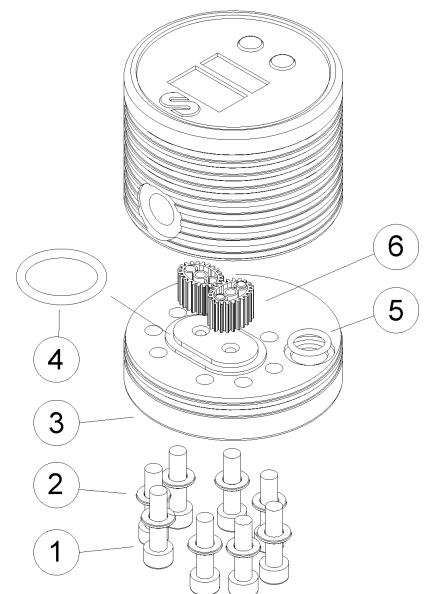

Fig. 6
1. Remove the 8 screws (1) and cover (3) at the back of the meter.
2. Remove the oval gears (6).
4. Replace the gears (6), the seals (4, 5) and the cover (3) as shown in figure 6.